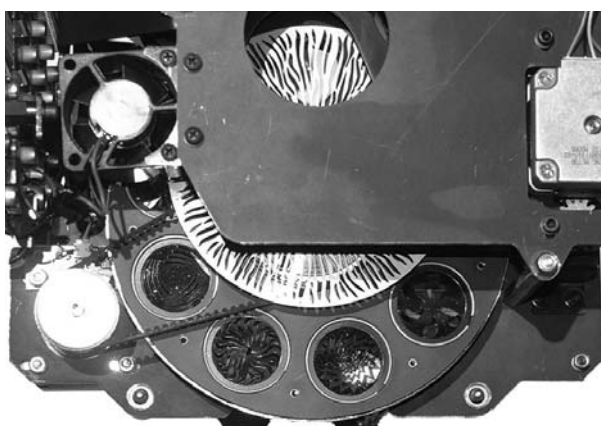
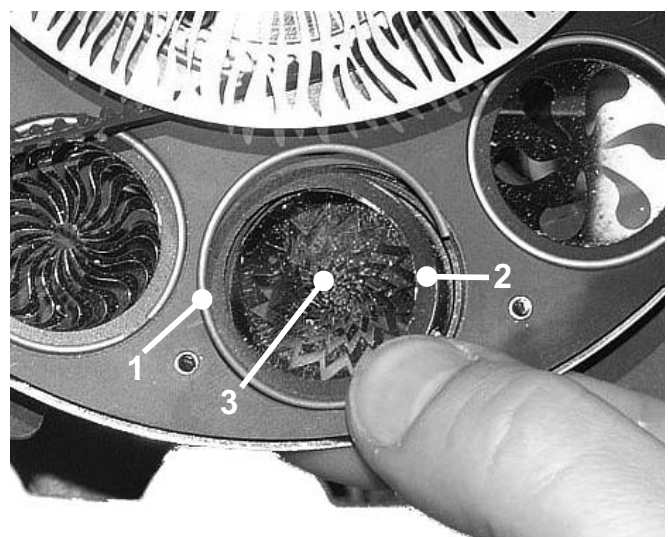

Fig.1
Fig 2
Dichro: After opening the fixture, locate the gobo to be replaced, press delicately downwards (Fig.1) until the spring, ring and the gobo come out, making sure they don't fall inside the fixture. Install the new gobo (3) as shown (Fig.2), followed by the ring (4) and the locking spring (5).